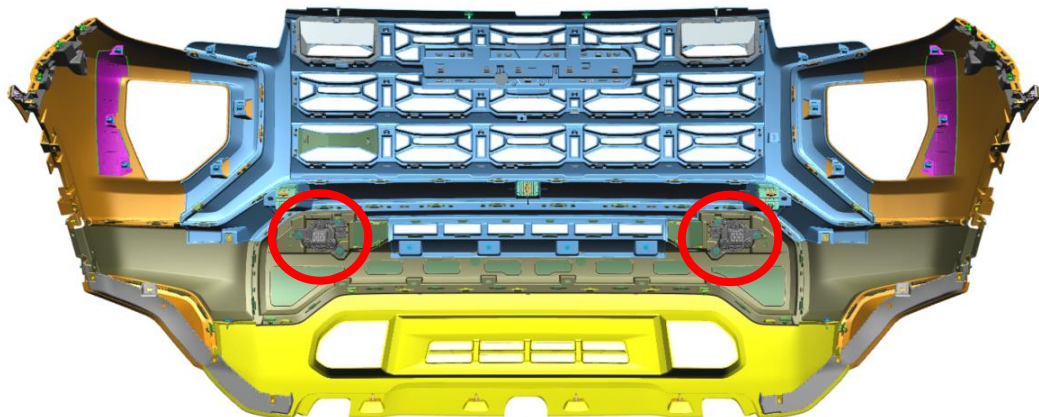

Figure 7 - Backside of Upper Front Fascia
- Remove [3] M4 Bolts (M7 Socket) per side and save light and hardware for AEV GMC Front Bumper – Fig. 7